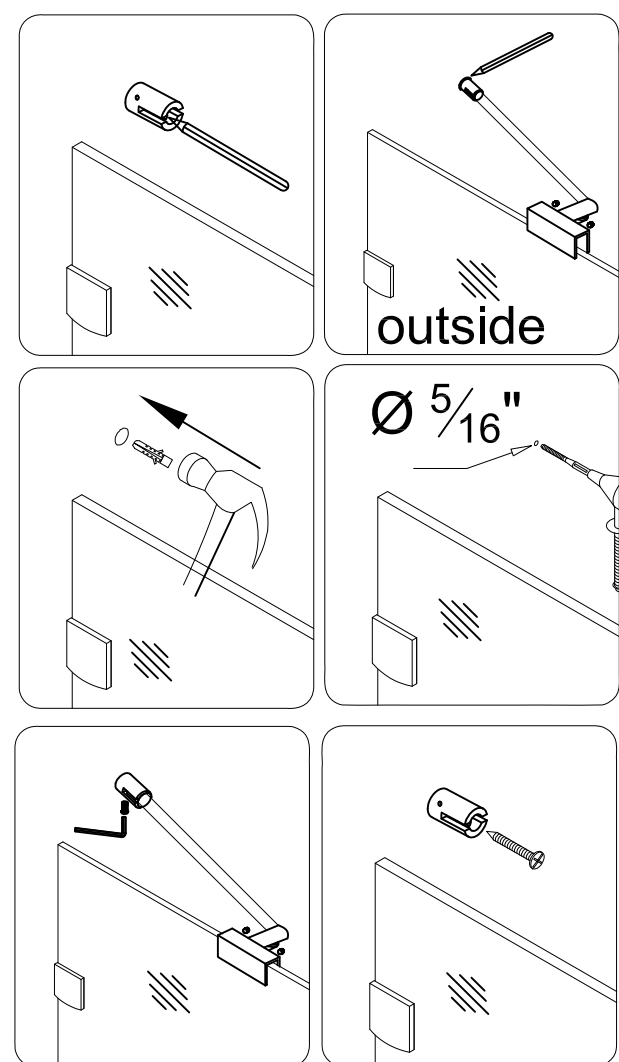

Figure 17
Attach the Support bar (04) to the wall bracket and the Hinged Stationary Glass (01) (with gasket in place) and tighten the set screws to secure in place. See Figure 17 for details.